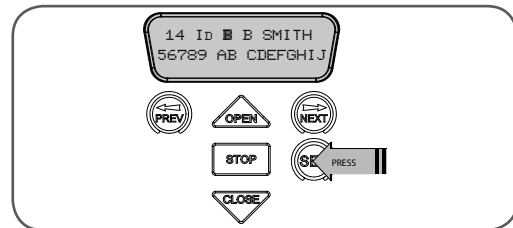

fig 32
1. Press NEXT or PREV to move the cursor. (Fig. 32)